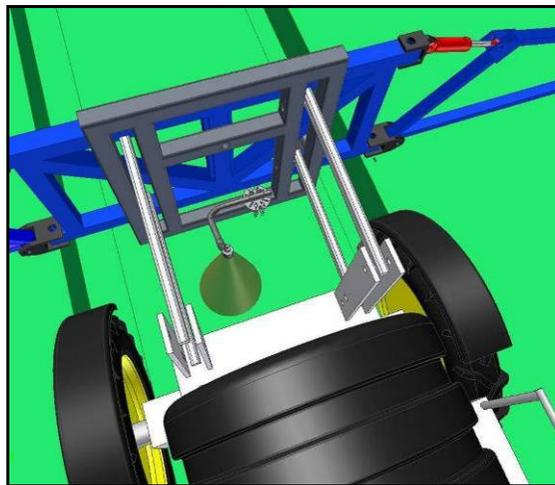

Figure 10: Main Lift Bracket Example Mounting
1. There are a variety of ways to mount the main lift bracket on most sprayers. The bracket should position the sensor approximately in the center of the sprayer, forward of the boom. An example of this mounting is illustrated in **Figure 10**.